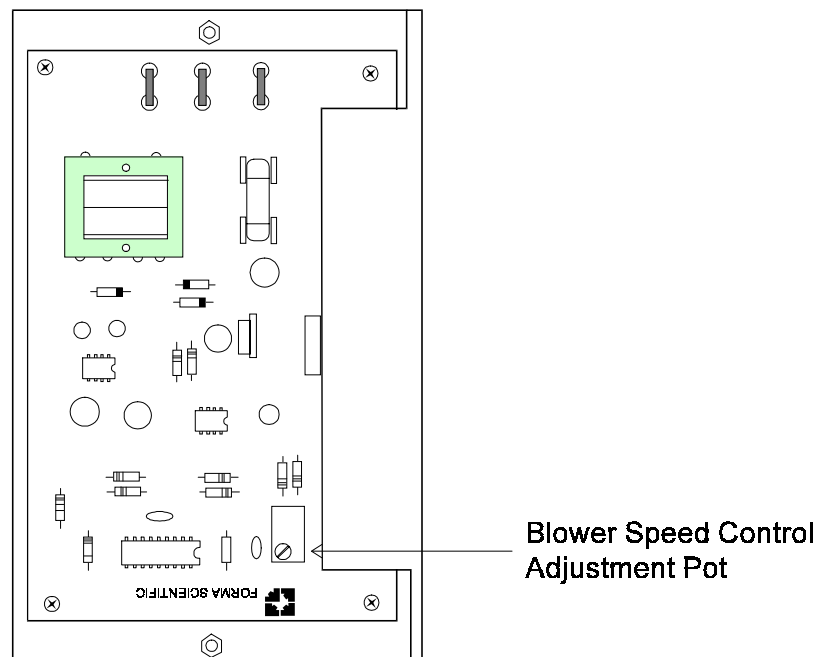

Figure 8-1
The blower speed control is a variable resistor located on the printed circuit board inside the cabinet behind the blower power switches. (Figure 8-1) The control is used to adjust the air velocity from the blower motor. Adjust the blower speed as follows:
3. Locate the blower speed control adjustment pot on the circuit board per the illustration in Figure 8-1.